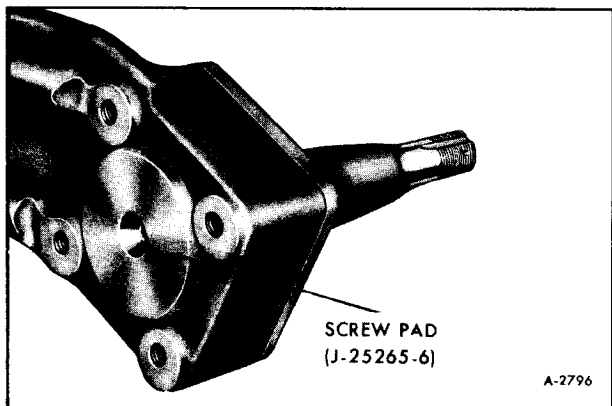

Figure 2
11. Apply penetrating oil to wheel spindle and suspension arm mating surfaces. Position screw pad J-25265-6 as shown in figure 2.